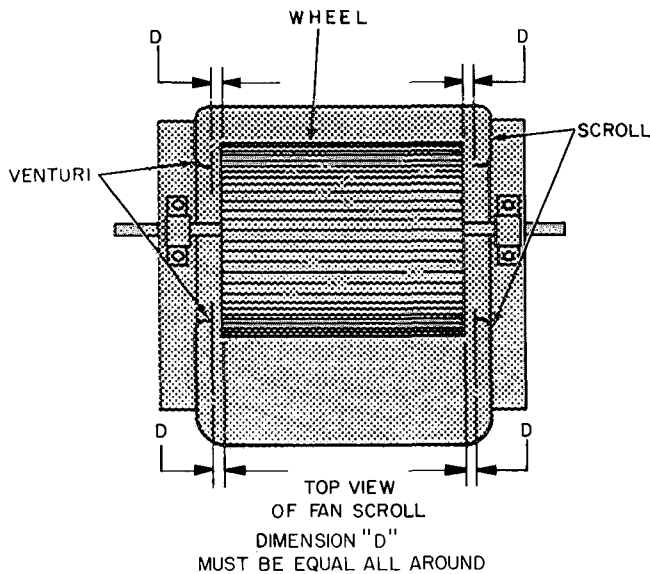

Fig. 10 — Horizontal Wheel Centering
HORIZONTAL WHEEL CENTERING — All wheels must be horizontally centered between the inside edges of their fan scroll venturis (Fig. 10). Adjust as follows:
2. Center the wheel by sliding it horizontally (Fig. 10).
2. Center wheel by sliding it horizontally (Fig. 10).
2. Slide shaft and wheel assembly horizontally until wheels are horizontally centered (Fig. 10).